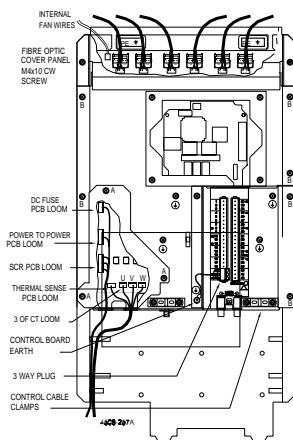

Figure 6.5: Frame 5 to 7 Power Tray
- 3) Referring to figure 6.5 access to the wiring looms on the lower left hand side by removing screws A (3 off CW M4x10) retaining this plate.